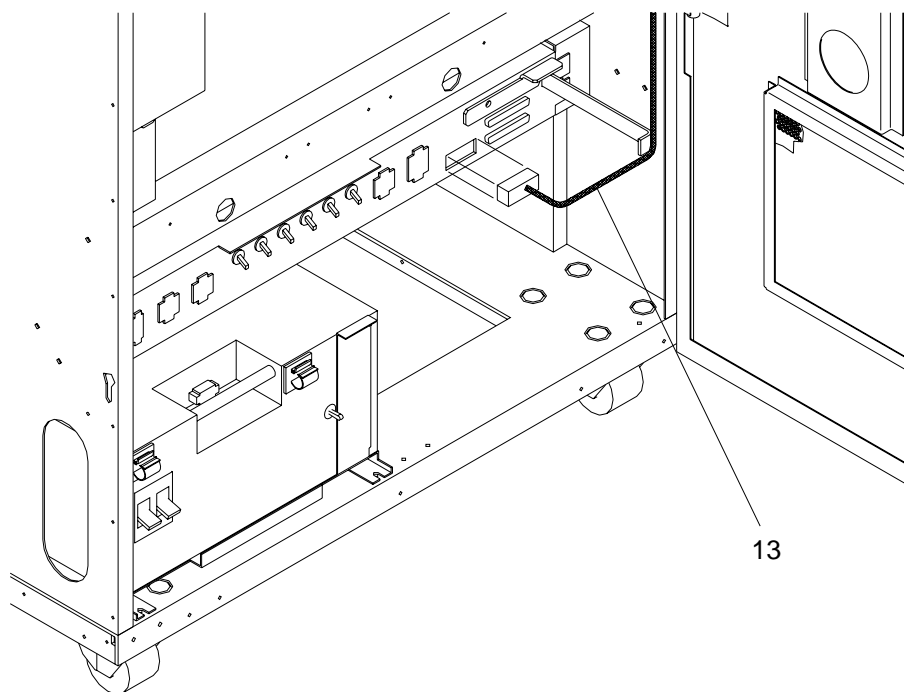

Figure 13. 3746-950 UEPO Cable connection.
- ___ 8. Route the UEPO cable **13** thru the clamp along the frame to the bottom of the machine, then connect it to the distribution box (Position 07H-A1-J6) See Figure 13.